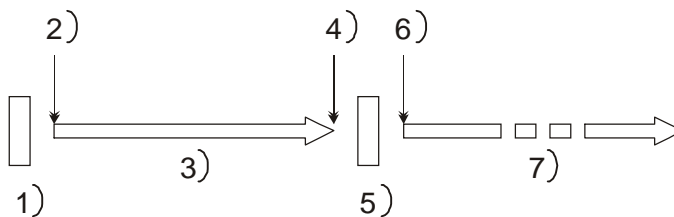

Figure 6-1
- Figure 6-1 show the relationship between the play and pause.